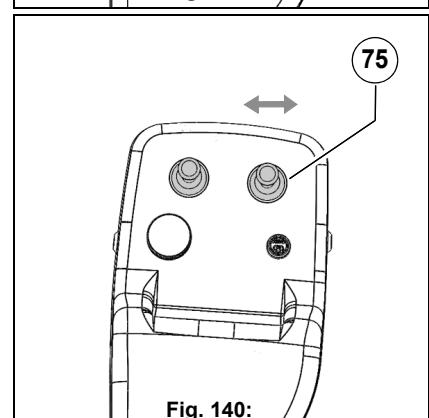

Fig. 140:
- Press the tip switch **Fig. 140-C** and simultaneously move the joystick **Fig. 140-75** to the right - the right-hand rotating brush tilts downwards
- Press the tip switch **Fig. 140-C** and simultaneously move the joystick **Fig. 140-75** to the left - the right-hand rotating brush moves back to the starting position